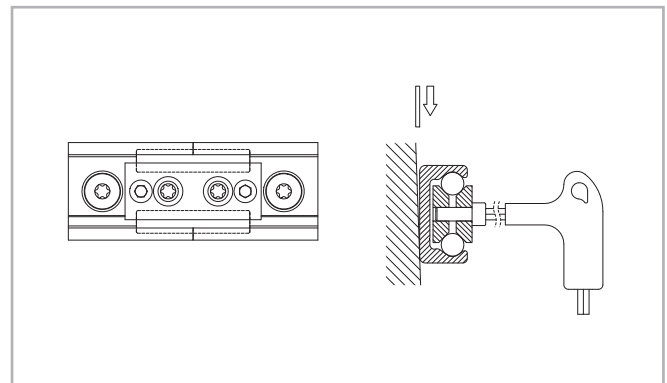

Fig. 118
- (3) Place the alignment fixture on the rail joint and tighten both set screws uniformly, until the raceways are aligned (see fig. 118).
- (4) After the previous step (3) it must be checked if both rail backs lie evenly on the mounting surface. If a gap has formed there, this must be shimmed.